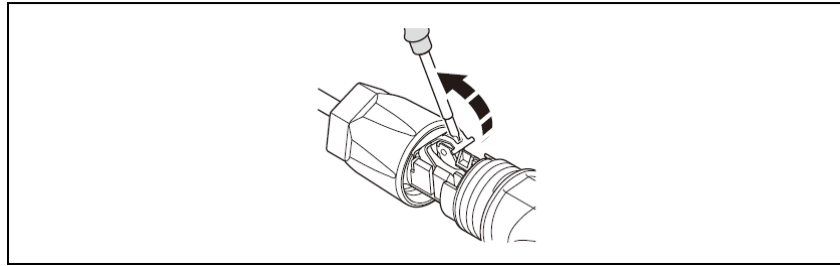

Figure 5-14
3. Open spring using a screwdriver (Figure 5-14).